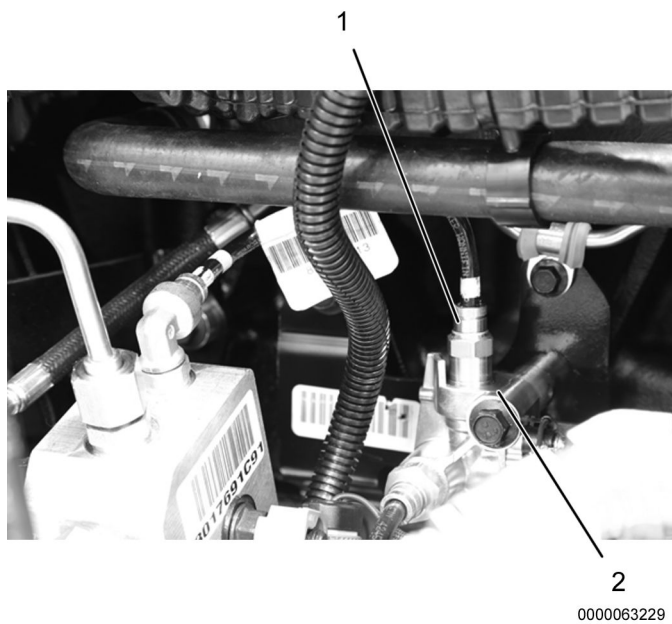

Figure 13. Aftertreatment Purge Air Valve Air Line.
27. Remove cap ZTSE4891 from aftertreatment purge air valve (Figure 13, Item 2) and connect air line (Figure 13, Item 1) onto aftertreatment purge air valve.